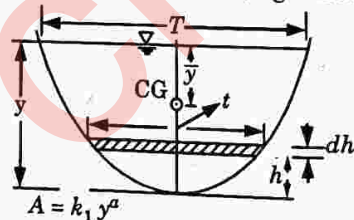

Fig. 3.10.1. Exponential channel.
- ii. In the case of an exponential channel (Fig. 3.10.1).